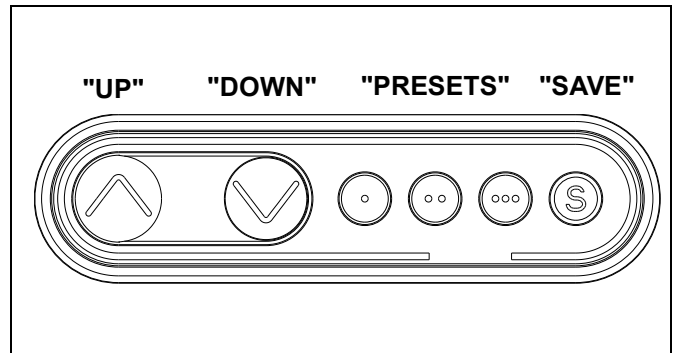

Figure 9
14. Plug in power cable (V) to outlet.
15. Press and hold "DOWN" button for three seconds to initialize lift mechanism. (See Figure 9)
16. Press and hold "UP" button until mount reaches it's maximum height. (See Figure 9)